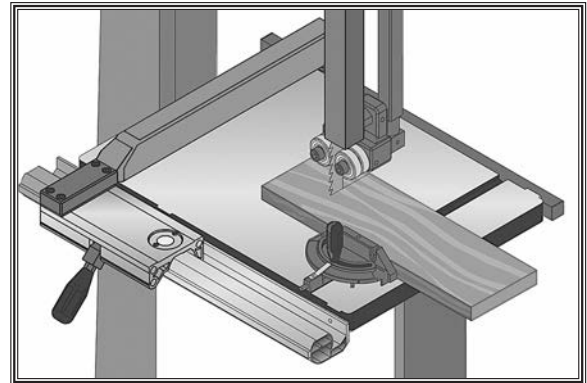

Figure 77. Example of a crosscutting operation with optional miter gauge.
5. After all safety precautions have been met, turn bandsaw **ON** and wait for it to come to full speed. Slowly feed workpiece into blade until blade is all the way through workpiece. **Figure 77** shows an example of a crosscutting operation.